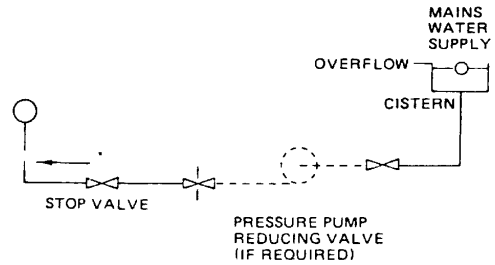

Figure 6 FULLY PUMPED SEALED SYSTEM
- ii) Where access to a make-up vessel would be difficult by using the mains top up method or a remote automatic pressurisation and make-up unit as illustrated in Fig 6 METHODS 1 & 2.
The system shall be fitted with a filling point at low level which incorporates a stop valve to BS1010 and a double check valve (approved by the National Water Council) to be fitted in this order from the system mains. Refer to Fig 6 METHOD 1.
The system can be filled using a sealed system filler pump with a break tank or by any other method approved by the local Water Authority. Refer to FIG 6 and BS6798 1987. Remove pump and flush out the system thoroughly with cold water. Re-fit the pump. Fill and vent the system until the pressure gauge registers 1.5 bar (22.5lbf/in²), examine for leaks. Raise the pressure until the safety valve lifts. This should occur within ± 0.3 bar of the pre-set lift pressure of 3 bar. Release water to attain the correct cold fill pressure.